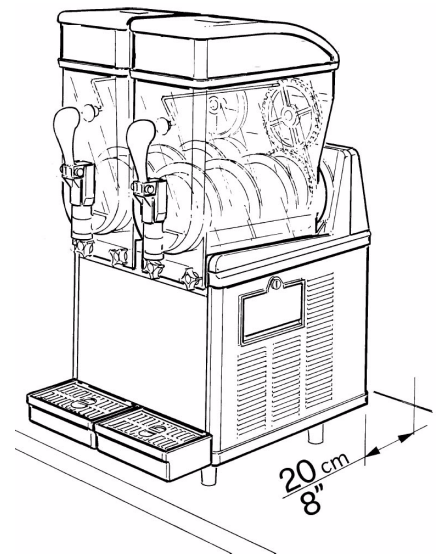

FIGURE 2
- The machine must be well ventilated. Leave an 8" (20 cm) clearance on the sides and back of the machine to allow proper ventilation (see Figure 2).
- The reversible (front to back) lit merchandising covers allow the operator to face the machine in either direction (Figure 2).